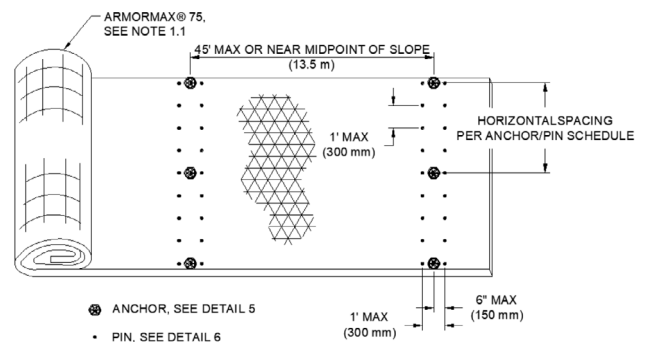

Figure 10: Simulated Check Slot
- For slope lengths greater than 45 ft (13.7 m), install simulated check slots. This method includes placing two rows of pins 12 in (300 mm) apart on 12 in (300 mm) centers and one row of anchors between the rows of pins on 4 ft (1.2 m) centers at 45 ft (13.7 m) maximum intervals or across the midpoint of the slope for slope lengths less than 60 ft (18.2 m) (Figure 10).